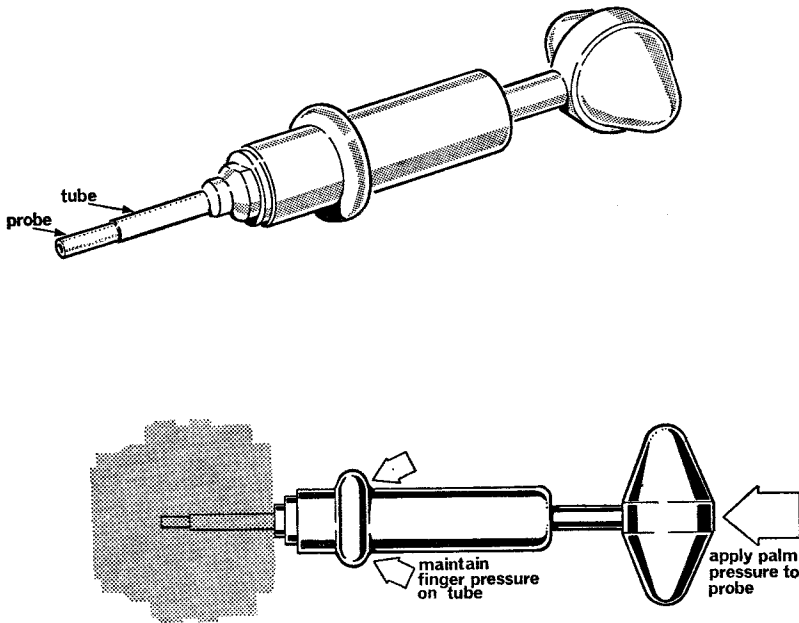

Fig. 8 Contact removal (Hellermann Deutsch)
- b. Slide the removal tool tube towards the tool handle (see figure 8).